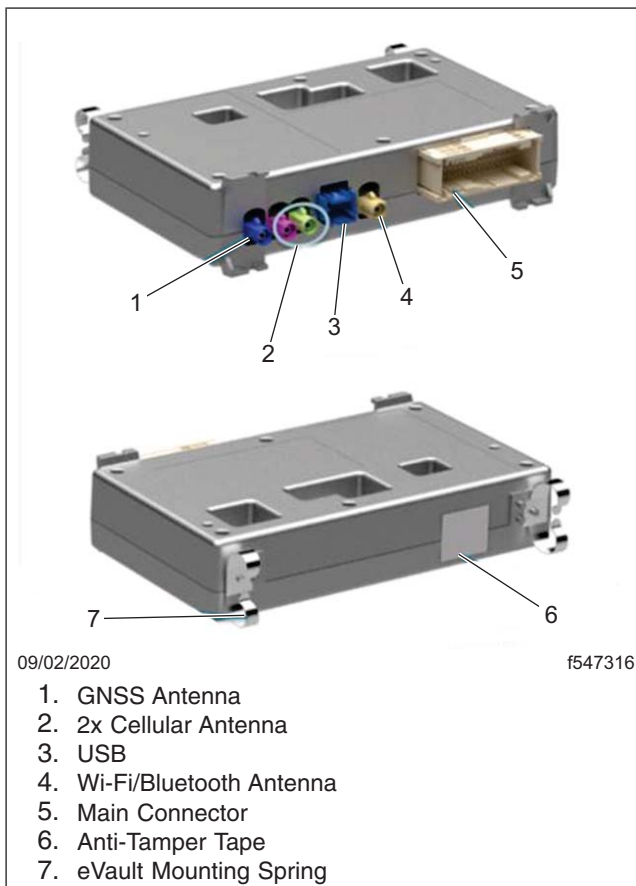

Fig. 2, CTP2 Connection Locations
11. Connect the CTP antennas to the matching color connector on the CTP. See Fig. 2.
- 11.7 Connect the 4G antenna cable to the CTP2, as shown in Fig. 2. Each antenna connector must match the color on the CTP2.